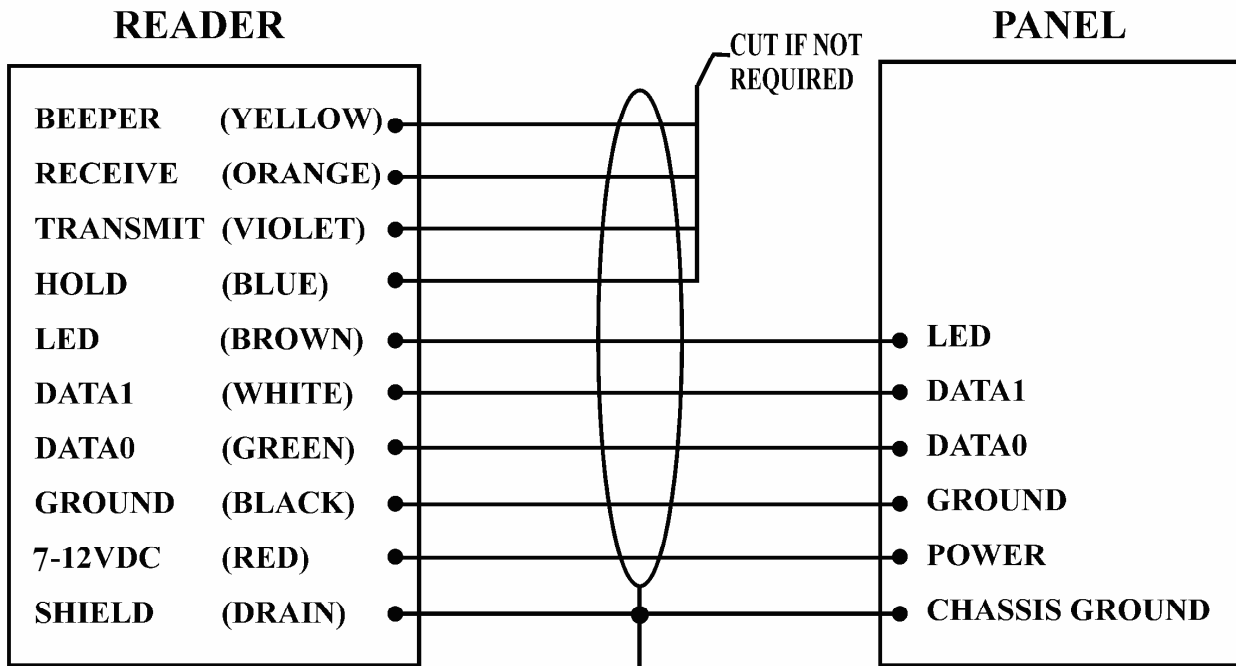
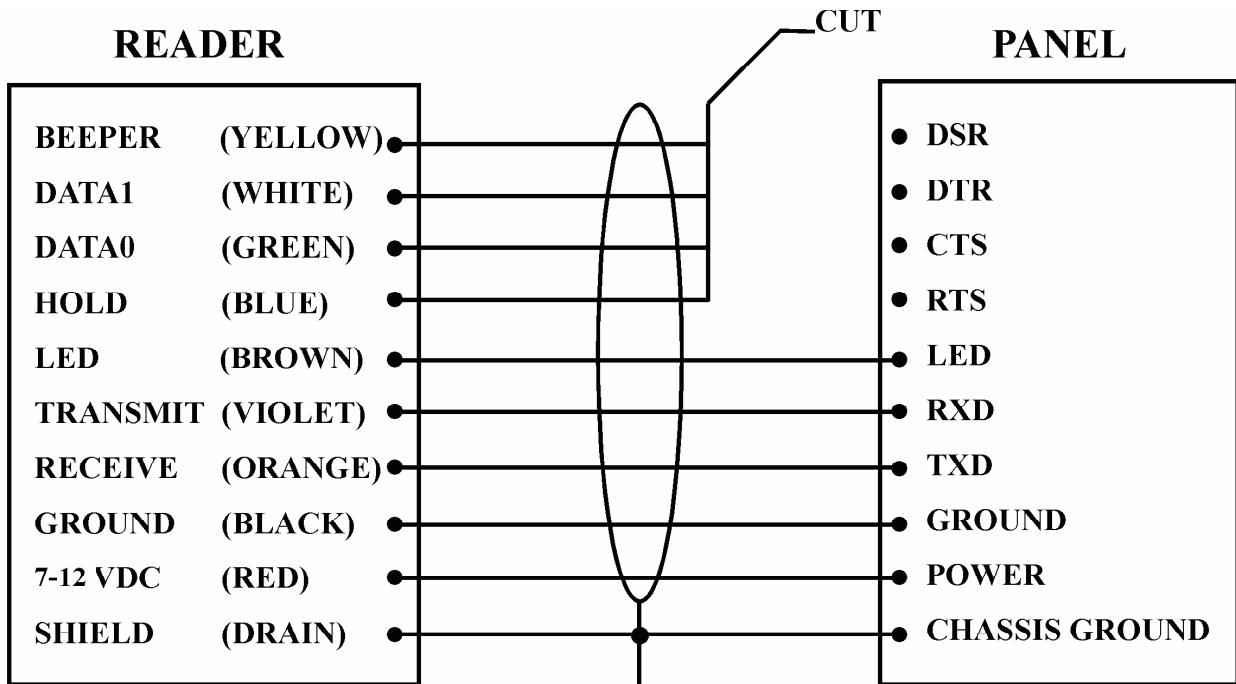
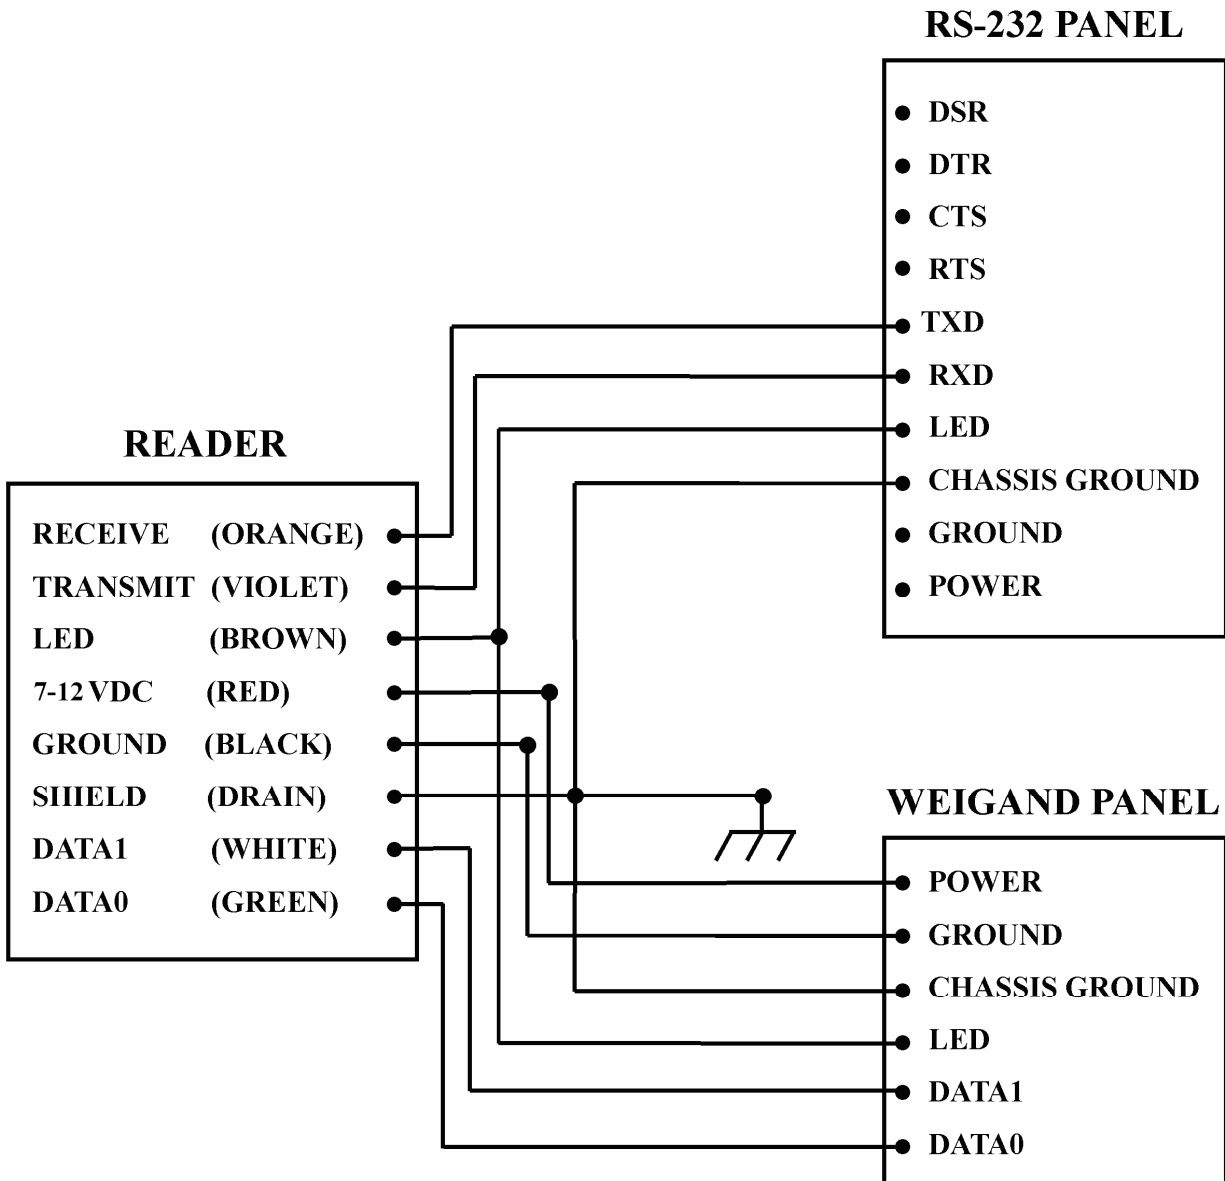

Figure 1 Wiring Diagram for Wiegand Output Format
Figure 2 Wiring Diagram for RS232 Output Format
Figure 3 Wiring Diagram for Wiegand & RS232 Output Format
The Reader is designed for Wiegand and RS-232 standard communication formats; use Figure 1 for Wiegand format installation and Figure 2 for RS-232 format installation, and use Figure 3 for combined Wiegand and RS-232 installation. If an external power supply is being used, leave the Panel's Ground and Power terminals open and connect the Reader's Ground (Black) and 7-12VDC (Red) terminals to the external power supply.
5. Connect the Reader and the Panel together according to Figure 1 for Wiegand format, Figure 2 for RS-232 format and Figure 3 for Wiegand/RS-232 format.